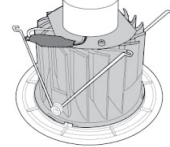

Figure 3 - Squeeze torsion springs and insert into recessed housing.
5. Squeeze torsion springs together and install into torsion spring brackets inside recessed housing (as shown in Figure 3).